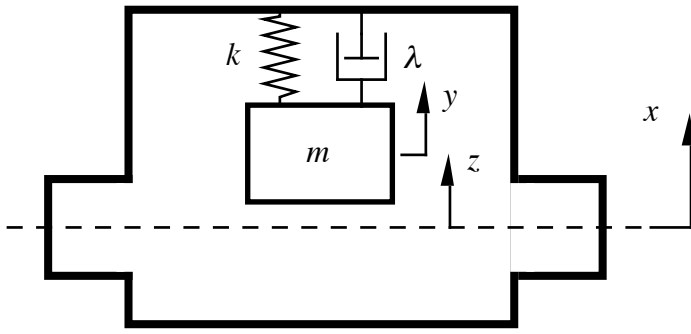

Fig. 4 (for Q. 7)
7. A seismic vibration transducer contains a mass m suspended on a spring k and a dashpot λ as shown in Fig. 4. The *absolute* vertical displacements of the mass and of the box are y and x respectively. The motion of the mass *relative* to the casing is given by $z = y - x$.